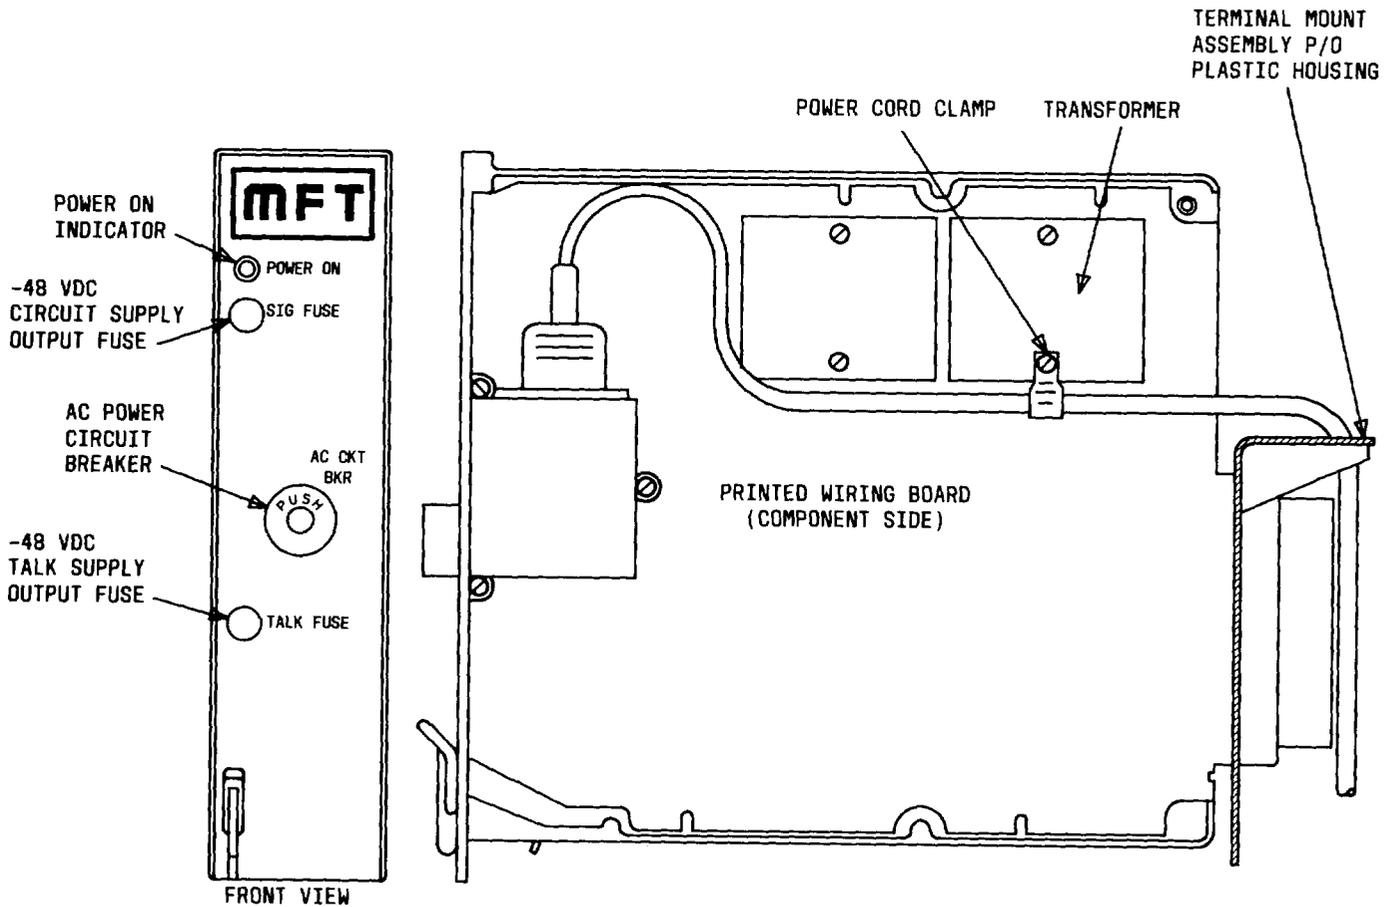

Fig. 3—J99400AA Power Supply/Frequency Generator
2.06 The J99400AA unit provides the -48 Vdc and 20-Hz ringing power for the J99400A assembly. This unit, shown in Fig. 3, inputs 117 Vac utility power and supplies two -48 Vdc outputs and 20-Hz